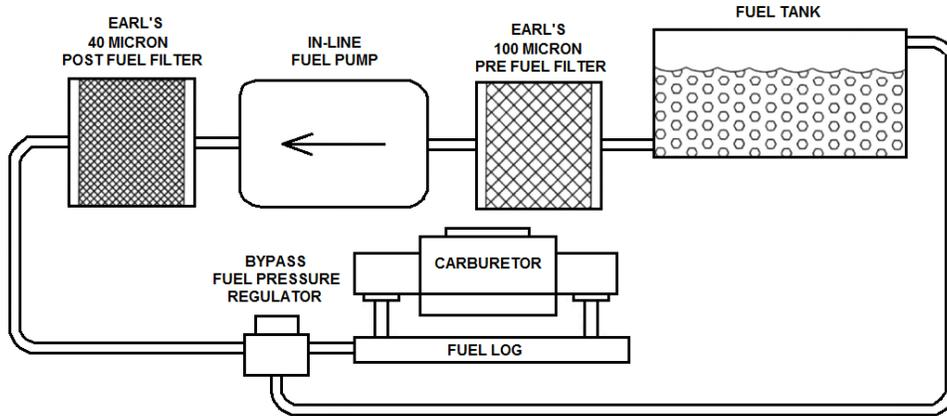
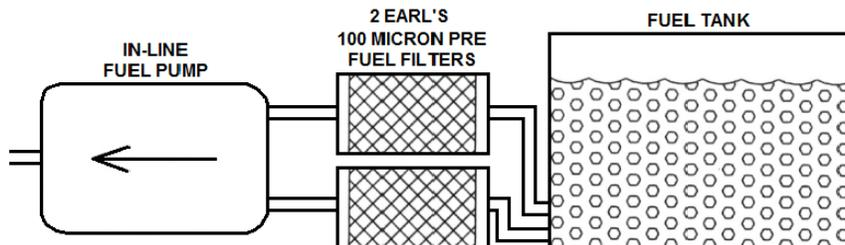

Figure 4a (Carb applications only)
Figure 4c
5. Connect the fuel supply line from the tank to the pre-filter and then **to the inlet port of the pump**. Connect the main fuel feed line to the outlet port of the pump, then to the post filter. See **Figures 4a and 4b**. If using a pump with dual inlets, both inlets **MUST** be plumbed or pump failure will occur! See **Figure 4c**.
NOTE: A return style fuel pressure regulator is required for use with the Earl's DOMINATOR fuel pumps. Please refer to the chart on page one for recommended fuel pressure regulators. Refer to figures 4a, 4b, or 4c for recommended plumbing scenarios.
(If using a pump with dual inlets, connect the fuel lines as shown and plumb the rest according to Figures 4a, 4b, or 4c.)